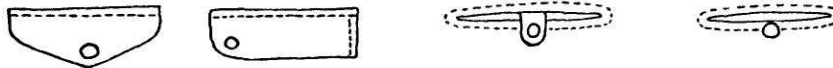

Fig. 2 Snap Closures for Pockets
10. To sew the ends in, start at a bottom corner and use a finished felled seam, felled toward the canopy. Pin the seams first to be sure the peak will come out at the ridge because the ends are cut on the bias and will stretch if not controlled. Sew with the canopy on top and the end underneath. In the case of the zipper end, the edge of the zipper tape is $\frac{1}{4}$ " back from the rough edge of the canopy. Before starting, cut two 12" lengths of web and include these at the peaks so 2" tails extend inside and a 4" long loop extends out side. The tails are well anchored to the ridge when felling this seam. See detail Fig. 2.
The other method of closing pockets is with a button or snap down flap. The flaps are made of two layers of fabric stitched around and turned inside out. For hip pockets a simple button or snap across the center of the opening keeps large objects from slipping out. (See Fig. 2, Plate IX.)